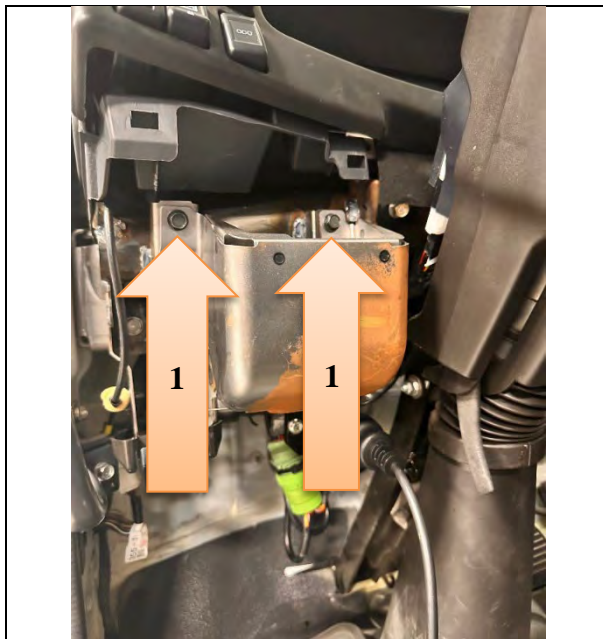

Figure 4
5. Remove the two (2) 10mm bolts and remove the knee bracket. (See Figure 4.)